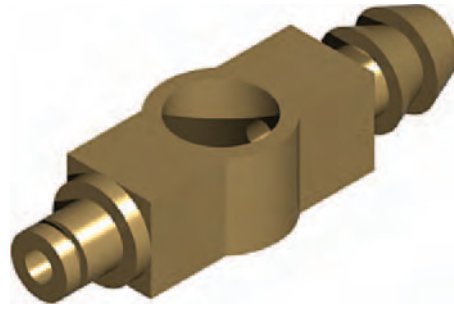

Fig. 18.18 Second example – 3D models
Second example (Fig. 18.18)
5. **Isometric**. Render (Fig. 18.18).
Third example (Fig. 18.18)